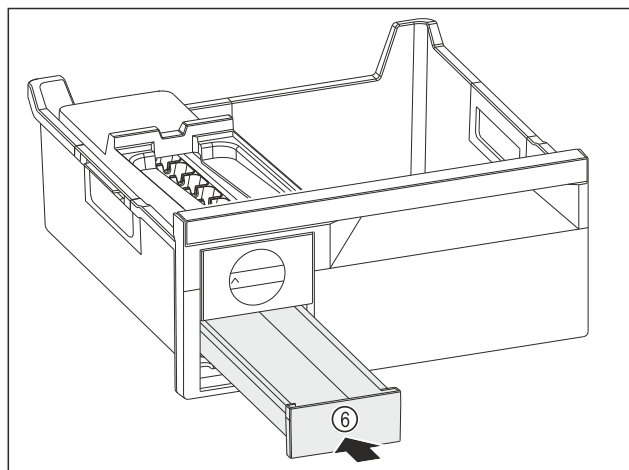

Fig. 83
- Insert the ice cube drawer Fig. 83 (6).